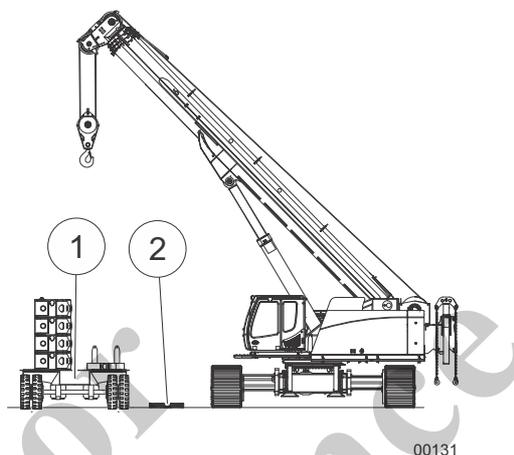

Fig. 167 Fastening the ballast bracket
- 8 Prepare wooden planks (2) in Fig. 167 as a support for the counterweight.